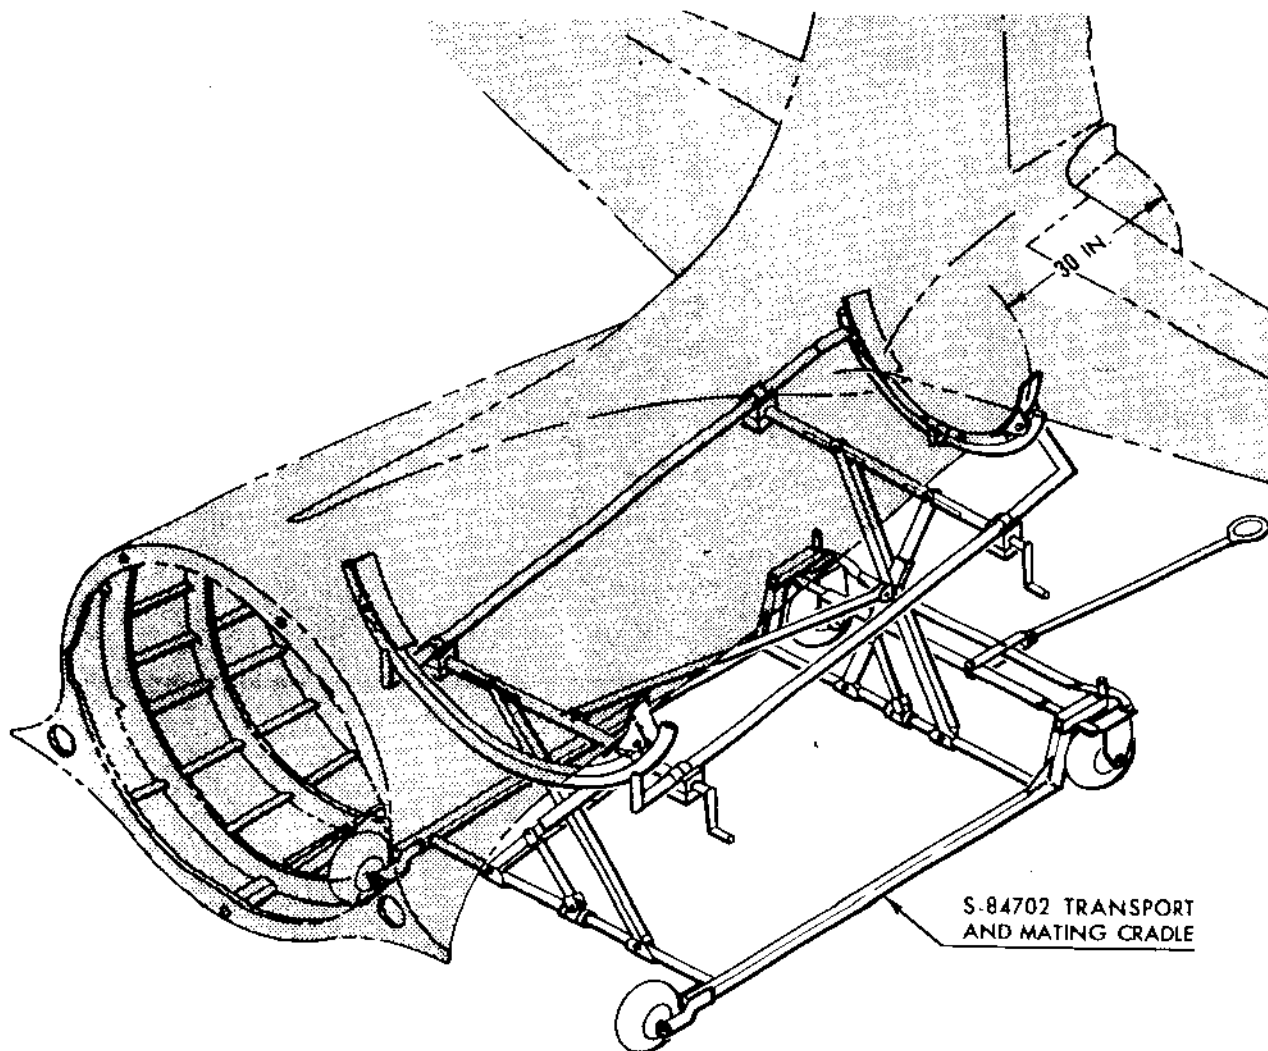

Figure 13 — Storage Cradle for Fuselage Aft Section
(1) FUSELAGE AFT SECTION. (See figure 13.)